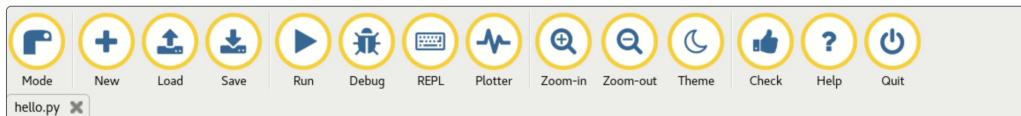
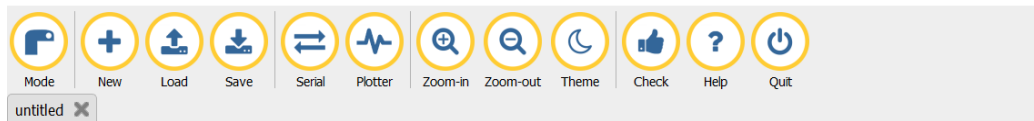

Figure 1: Mu Control Ribbon
Figure 2: Mu CPX Control Ribbon
- (b) Click the **Run** button (Figure 1, button 5)
Mode button (Figure 1, button 1). In Adafruit CircuitPython Mode, the ribbon will change to reflect options available on the CPX (Figure 2).
3. Click the **Serial** button (Figure 2, button 5)
4. Click the **Plotter** button (Figure 2, button 6)